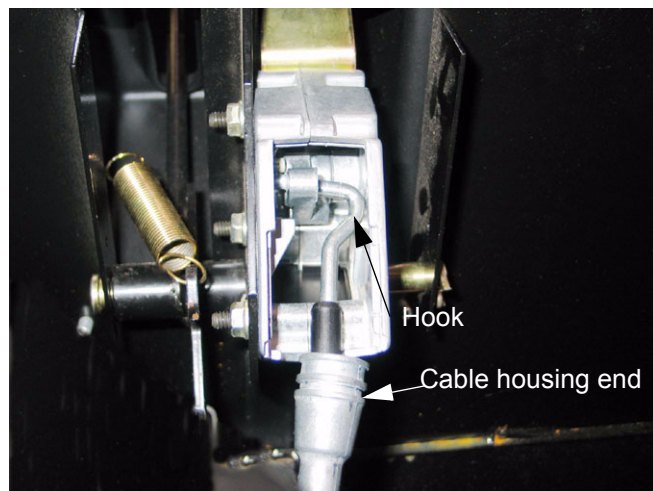

Figure 4.6
- 4.6. With the cover removed, lift the shift control cable housing end out of the recess that locates it in the shift control housing. See Figure 4.6.